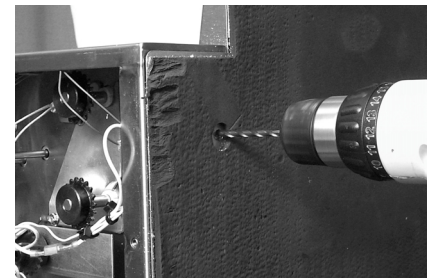

Fig. 2: Use a 9/32 bit to drill out the bite hole in the cabinet. New screws, which will hold the spring-loaded idler, are provided for this position
- Use a 9/32 bit to drill out the bite hole. Fig. 2